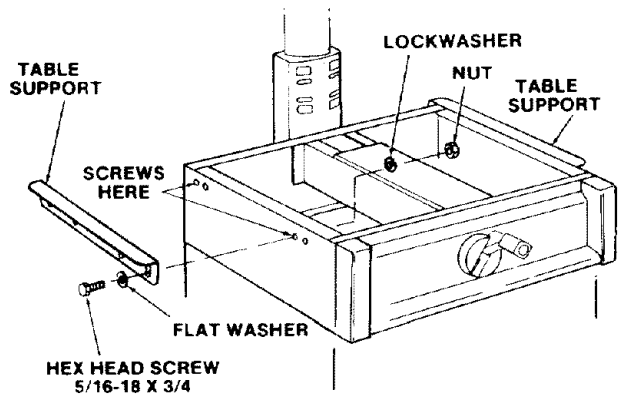

Fig. 58
3. Attach a *table support* to each side of the *saw* using the four hex head bolts and flat washers. (Figure 58 & 59) Put the bolts through the center of the enlarged holes in the *table supports* so that the *supports* may slide up or down as needed.